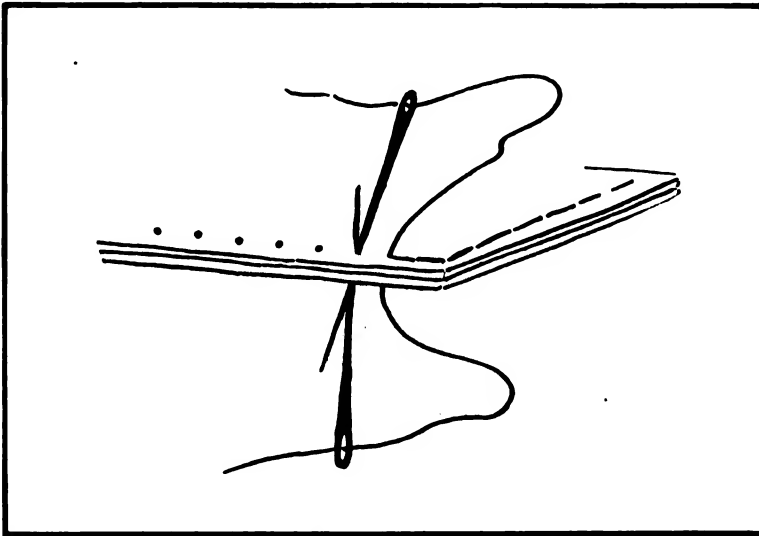

Fig. 30. Sewing with Two-Threads. Cobbler's Stitch.
(2) The cobbler's stitch. Two threads are required for this stitch. The needles go thru the same holes but in opposite directions. See Fig. 30.
(3) Leather may be stitched on a sewing-machine, using a long loose stitch. Place a thin paper between the leather and the feed of the machine when stitching. This is to protect the leather from marks. The paper is easily removed when the stitching is completed.